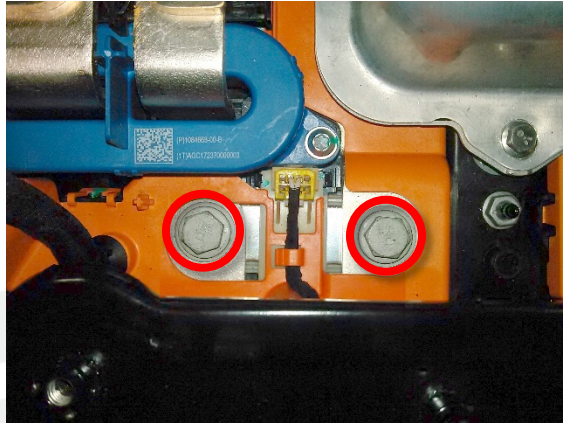

Figure 2
6. **Dual Motor vehicles only:** Remove and discard the bolts that attach the positive and negative busbars to the front drive unit HV header (Figure 2).
8. **Dual Motor vehicles only:** Install new bolts to attach the positive and negative busbars to the front drive unit HV header, and then mark the bolts with a paint pen after they are torqued (torque 5 Nm +60°) (Figure 2).